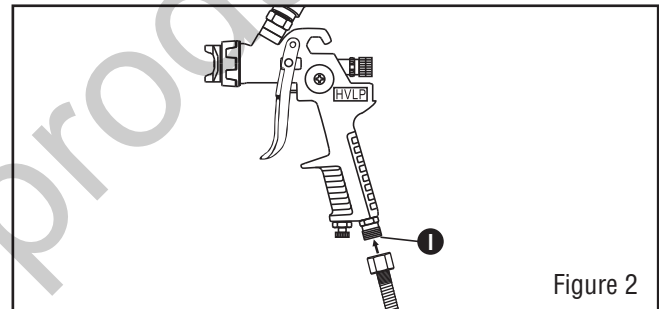

Figure 2
2. Connect air supply hose (not included) with the air inlet (I) of spray gun (A). Use seal tape (not included) for airtight connection. Do not overtighten. (See Figure 2)